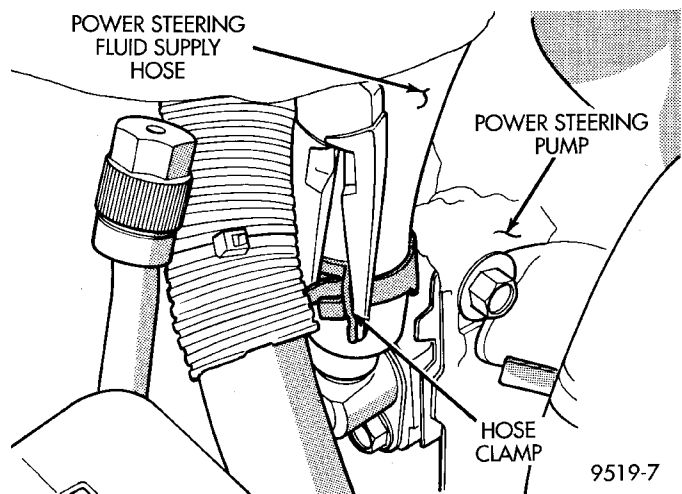

Fig. 20 Power Steering Fluid Supply Hose At Power Steering Pump
- (2) Remove hose clamp, attaching power steering fluid supply hose to the power steering pump (Fig. 20). Then remove power steering fluid supply hose from power steering pump fitting.
(3) Install power steering fluid supply hose on power steering pump fitting. Install hose clamp on power steering fluid supply hose at power steering pump fitting (Fig. 20). **Be sure hose clamp is installed on power steering fluid supply hose past upset bead on power steering pump fitting.**
(4) Start the engine and let run for a few seconds. Then turn the engine off.
(5) Add fluid if necessary. Repeat the above procedure until the fluid level remains constant after running the engine.
(6) Raise front wheels of vehicle off the ground.
(7) Start the engine. Slowly turn the steering wheel right and left, lightly contacting the wheel stops. Then turn the engine off.
(8) Add power steering fluid if necessary.
(9) Lower the vehicle and turn the steering wheel slowly from lock to lock.
(10) Stop the engine. Check the fluid level and refill as required.
(11) If the fluid is extremely foamy, allow the vehicle to stand a few minutes and repeat the above procedure.
(12) After hose is installed, check for leaks at all hose connections.